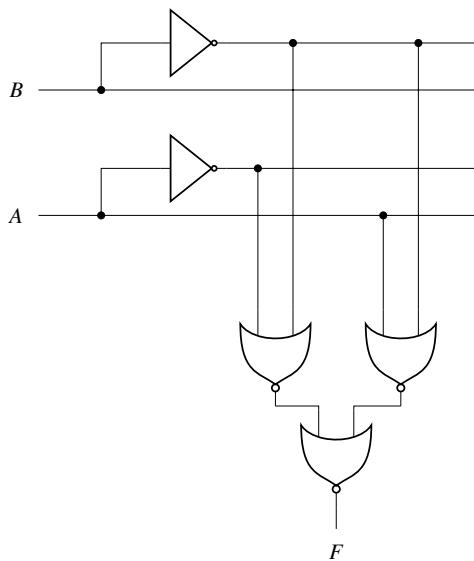

Fig. 3.25
43. The logic block shown in Fig. 3.25 has an output F given by _____. (GATE IN 2022)